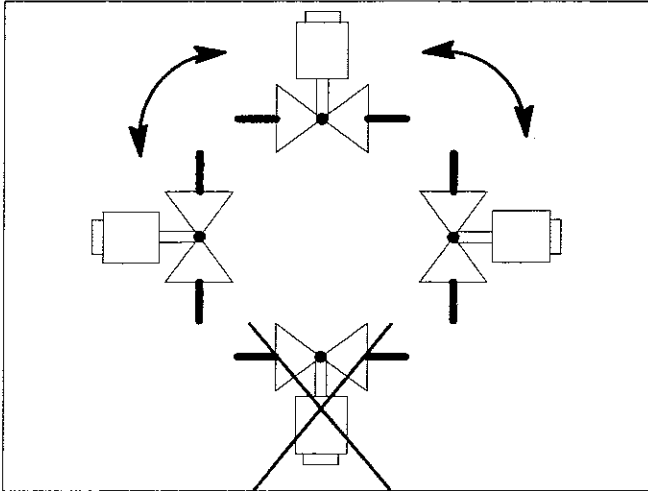

Figure 5. Mounting position
Vertical to 90 degrees from vertical, refer to figure 5.
Prepare piping and install valve (Figure 5.)
4. Install valve in a horizontal pipe line, (refer to figure 5. for mounting position) with the gas flow matching the direction indicated by the arrow on the casting.